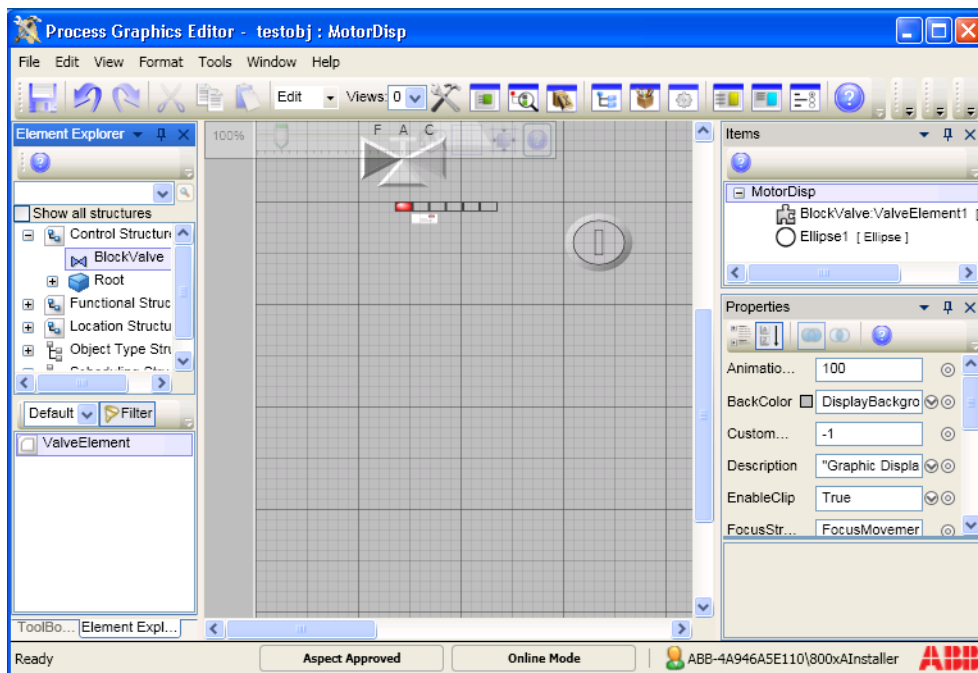

Figure 9. Inserting PLC Connect Element in Graphic Display
7. Double-click the element to add it to the edit panel of the Graphics Builder. See Figure 9.